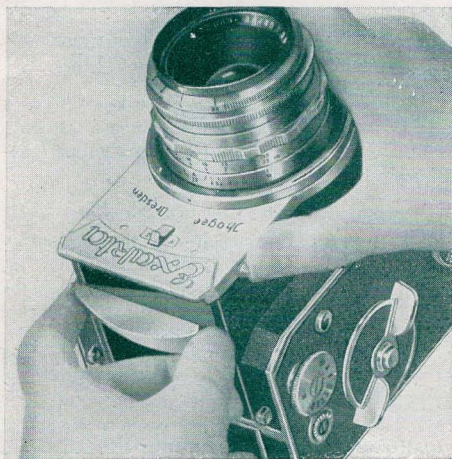

Fig. 8
To exchange the magnifying lens (ground-glass magnifier), take off the lighthouse. Push up the locking lever (11) as far as it will go (Fig. 8), tilt the camera carefully, at the same time taking hold of the magnifying lens in the lighthouse frame. To